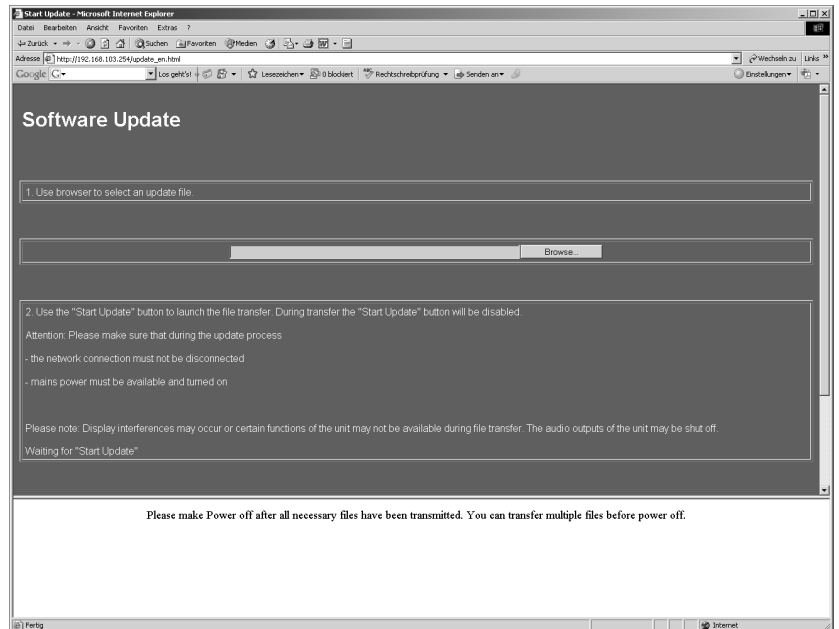

Fig. 8-10: End of the data transfer of the selected file
8. The download is finished when the message "Please make power off after all nessecary files have been transmitted. You can transfer multiple files before power off" is displayed (see Fig. 8-10). Please do **not** switch off the SurroundControl units but proceed with step 9.
9. Use the displayed dialog (see Figs. 8-10 and 8-5) to select (Browse ...) the **second** of the four update files.
10. Use the displayed dialog (see Figs. 8-10 and 8-5) again to select ("Durchsuchen") the **third** of the four update files.